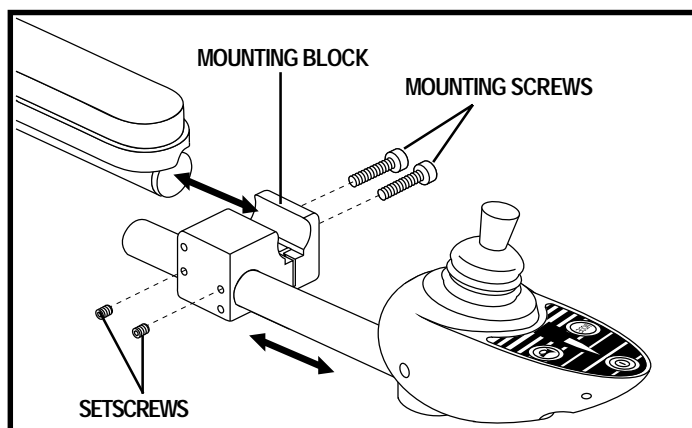

Figure 21. Controller Position (Synergy Seat)
4. Loosen the mounting screws in the controller mounting block. See figure 21.